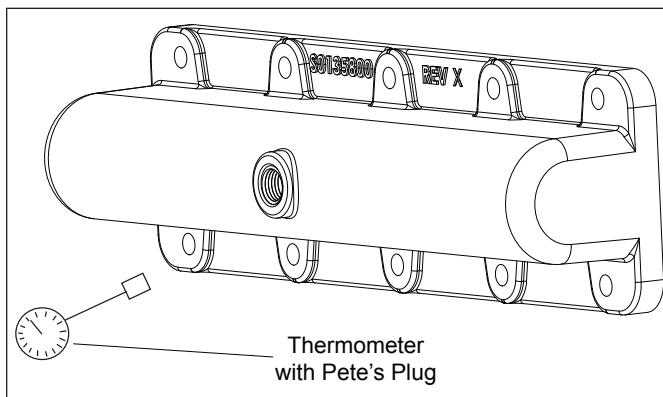

Figure 6. Check Temperature Rise
3. Remove the drain plug located on the return header of the heater and replace it with a Pete's Plug®. See Figure 6.
4. Insert a pocket thermometer through the Pete's Plug into the header. See Figure 6.
6. After three (3) minutes, note and record the thermometer reading. This is the pool water temperature.
- b. Allow the heater to operate for five (5) minutes or more.